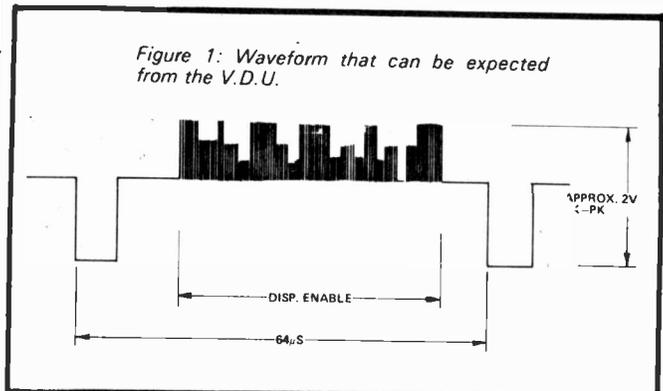

Figure 1: Waveform that can be expected from the V.D.U.
Fig. 1 The HP67 keyboard is rather complex, but logically arranged. You can have the pleasure of tickling its keys for £350.00 (inc. VAT). We wonder why dealers don't like demonstrating it?
The frame sync signal is derived from counting the line sync signals and dividing these into groups of 300. Each line sync signal has a total duration of  $64\mu\text{s}$  which is broken up as shown in Fig 1. As the actual negative going strobe is decoded by the TV as being off the screen, we need a gap between this strobe and the start of our display, for similar reasons and for neatness we need a similar gap after the last part of the display, and before the next line sync signal. The display time we have left in the middle is the time used to display our 64 character slots.
- C4 output should be similar to fig 1.